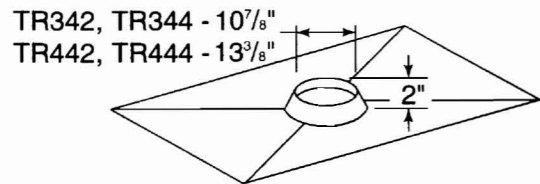

Figure 1
1. Install the Roof Flashing or the Chase Top. See Figure 1 for required dimensions of the Chase Top, or use Catalog Number CT35 for SL300 chimney system or CT56 for SL400 chimney system. The uppermost chimney section must extend a minimum of 2" above the top of the Chase Top collar to allow for the installation of the Terminal Cap and the Storm Collar.